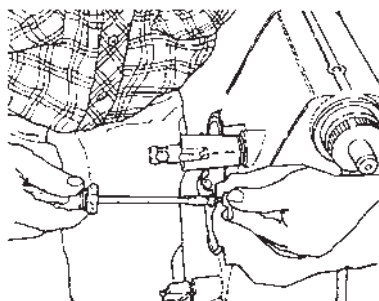

Figure D-15
- d. Remove the speed dial and speed changer. Remove the three screws and washers that hold the speed dial and speed changer in the headstock. The screw toward the right also holds a dial spring on the outside and a nylon clip inside the headstock. To keep from losing the clip, reach inside the headstock through the nameplate opening and hold it while loosening the screw, as demonstrated in Figure D-15. When you have removed all three screws, pull the speed dial and the speed changer out of the headstock.